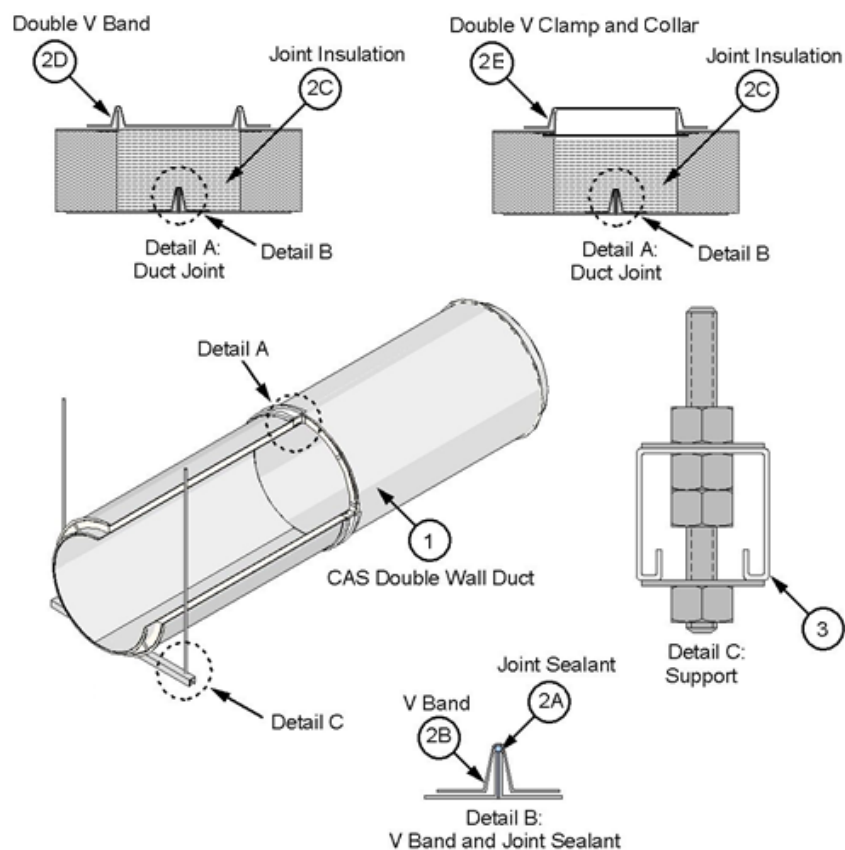

Figure 1. CAS Double Wall Duct and Horizontal Support
- B. **V BAND –** Use the supplied V band (see Figure 1). Place the loose V band, filled with joint sealant (Item 2A), over one of the inner duct flanges. Join to the other inner duct flange with the continuous bead of joint sealant (Item 2A) and rotate slightly to ensure complete coverage of joint sealant (Item 2A) on flanges. Ensure that the flanges are located within the V band and that the V band hardware is not at the bottom side of a horizontal duct. Tap the V band while tightening the integral 1/4-20 hardware to ensure flanges are aligned and pulled together. Tighten to 40-60 in.lb.
- D. **DOUBLE V BAND –** Use the supplied double V band (see Figure 1) for grease duct diameters ≤ 24 in. Place double V band with the grease duct outer shell flanges seated in the V band; tighten integral 1/4-20 hardware to 40-60 in.lbs.
- E. **DOUBLE V CLAMP AND COLLAR –** Use the supplied double V clamp and collar (see Figure 1) for grease duct diameters > 24 in. Use the sheet metal collar to retain the joint insulation; overlap collar ends and fasten together with min. two min. size #6 sheet metal screws. Place double v clamp with the grease duct outer shell flanges seated within the clamp recess; tighten integral 1/4-20 hardware to 40-60 in.lbs.
- A. **HORIZONTAL SUPPORTS –** Support the pre-fabricated grease duct (Item 1) using min. 12 GA, 1-5/8 in. x 1-5/8 in. Unistrut® channel or 2 in. x 2 in. x 1/4 in. steel angle as the supporting cross-member and two min. 1/2 in. diameter, threaded steel rods connected using Grade 5 hex nuts and 1/2 in. hardened washers (see Figure 1, Detail C). For grease duct diameters > 24 in., use supplied 12 GA steel saddles fastened to the Unistrut®